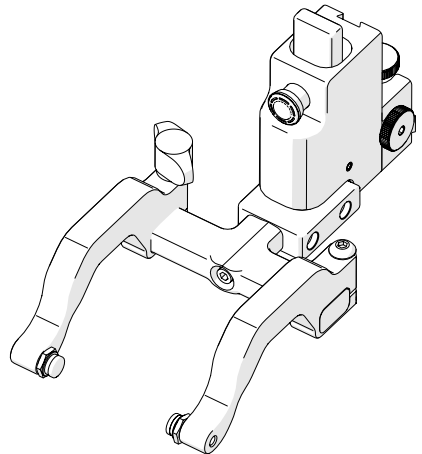

Fig. 103 - 90° probe holder positioning
2. Orient the yoke to the front of the probe holder and screw the yoke into the threaded hole provided (Fig. 103).